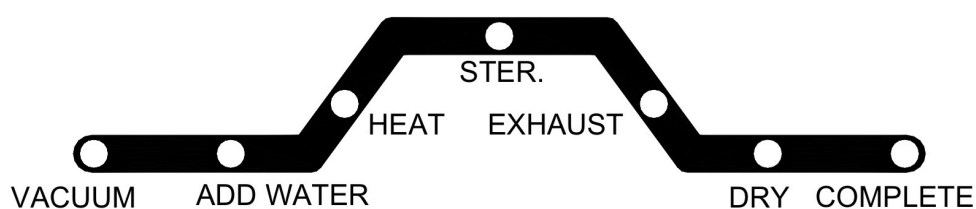

Figure 49
- D. Press the START Button , the setting temperature, duration, and dry time displayed two times on the three-digit display, and then the sterilizer will automatically run through the selected program. The current progress of the sterilization cycle is indicated by the illuminated LED on the Process Status Indicator. (Figure 49)